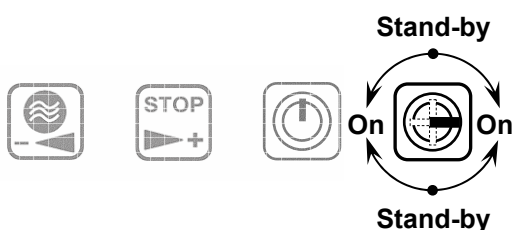

Fig. 4.4 A
1. Switch on the coffee machine, by turning the key of the stand-by/on key switch to On position (cf. Fig. 4.4 A.)